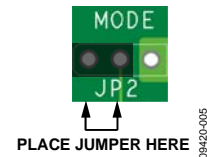

Figure 5. Auto Mode Jumper Position
- Place the converter in auto mode by using a jumper to connect the left most pins of JP2. The jumper connects the MODE pin to GND to use the power save mode with automatic transition between PFM and PWM mode (see Figure 5).